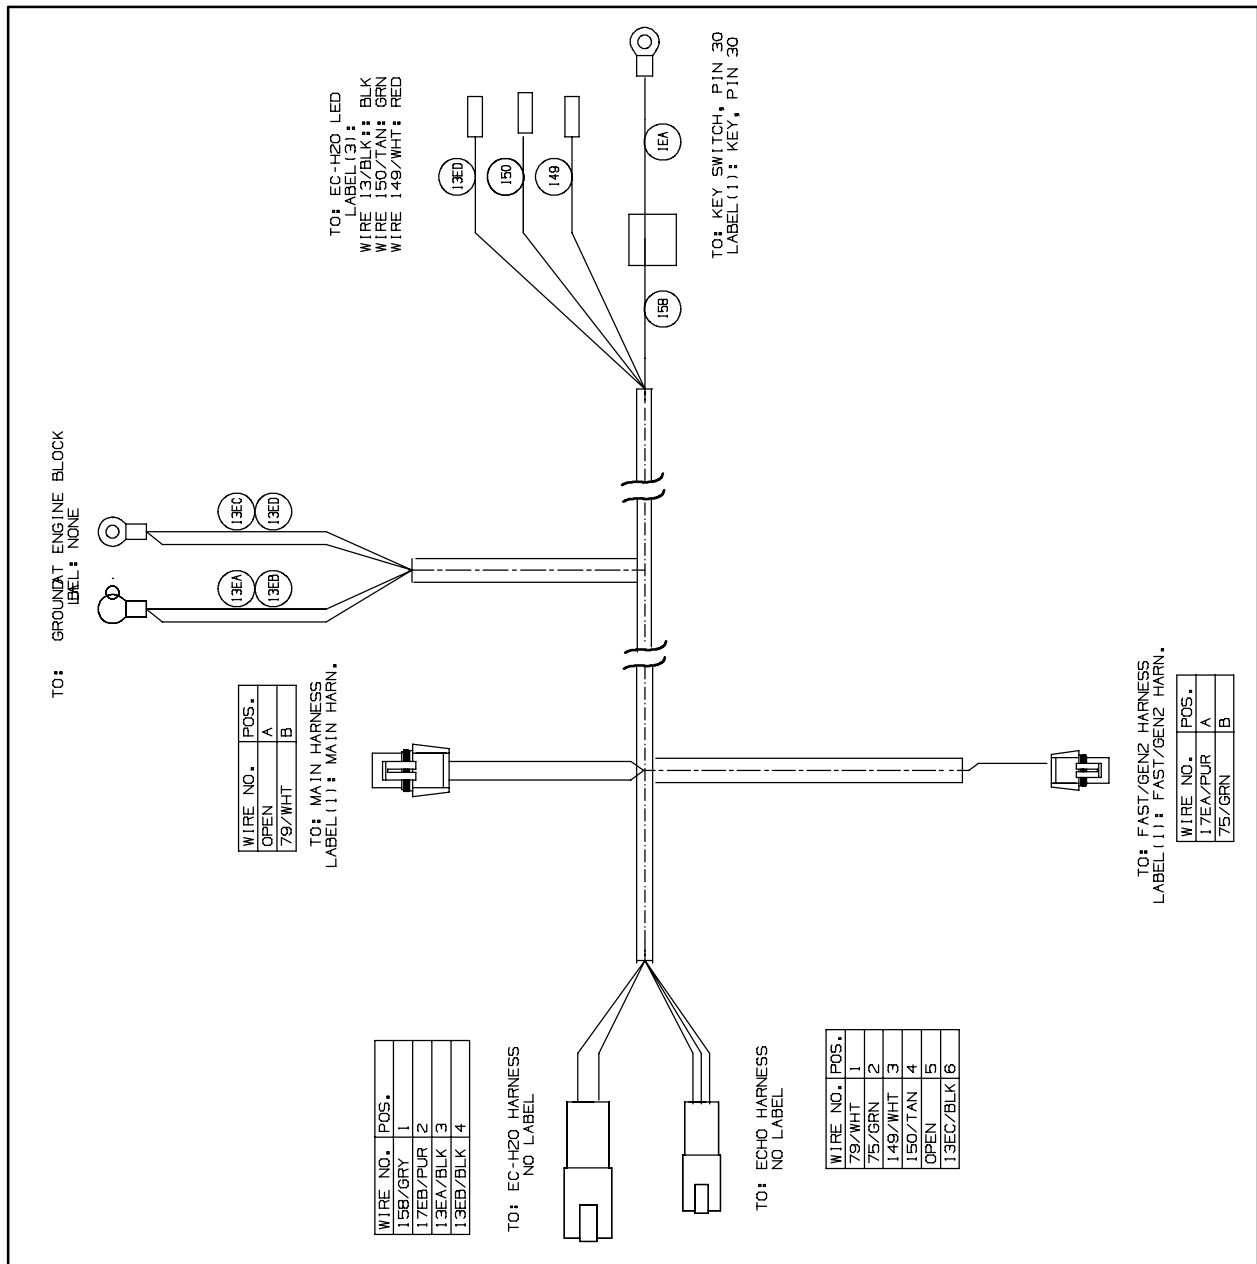

FIG. 8
29. Route the *ec-H20* harness ground lead to the engine ground and connect the ground lead to the engine ground. Refer to Fig. 8.
32. Slide the *ec-H20* harness ignition switch lead through the bottom of the boot and connect the ignition lead to the PIN 30 terminal on the ignition switch. Refer to Fig. 8.
34. Connect the *ec-H20* harness to the LED light. Refer to Fig. 8.
42. Connect the *ec-H20* harness to the *ec-H20* assembly. Refer to Fig. 8.